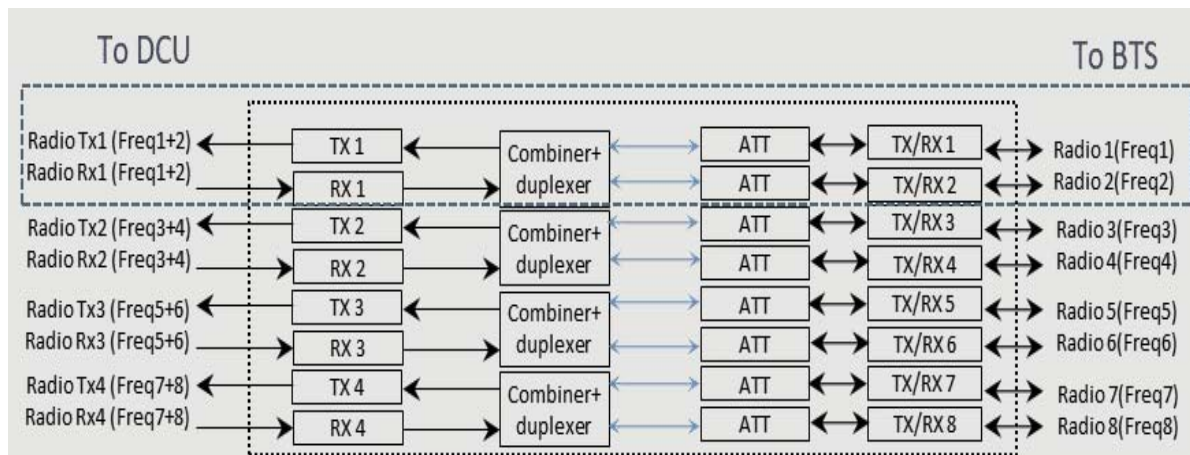

Figure 3. 2 TO 1 Matrix
- Signal combination: The RIU combines different base station signals into one wideband signal, the combination matrix of which is software-controllable, listed in Figures 3 through 5.